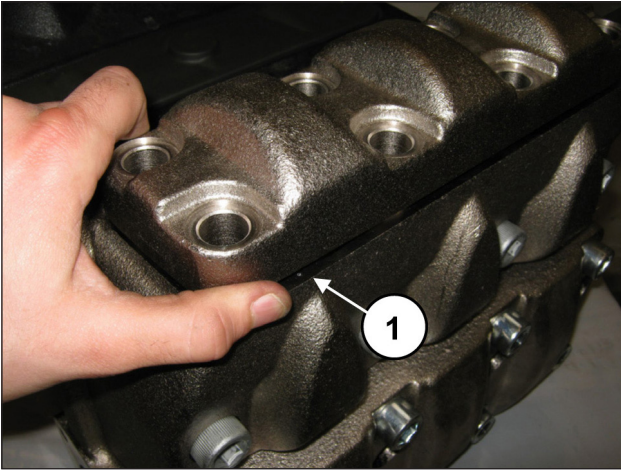
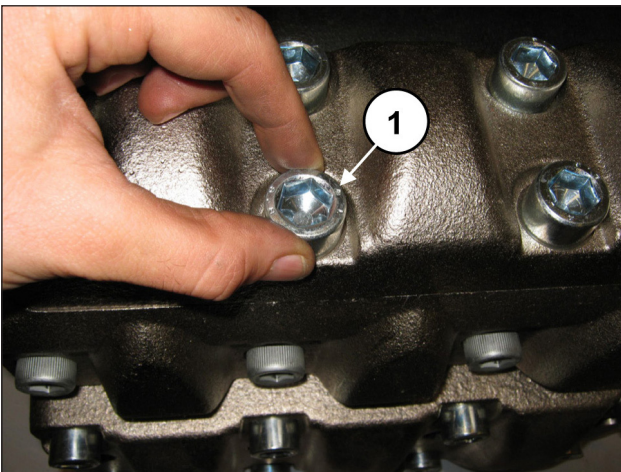

Fig. 159
Fig. 160
After having completed assembly of the outlet valve units, apply the outlet valve cover (pos. ①, Fig. 159) and screw in the 8 M16x45 screws (pos. ①, Fig. 160).